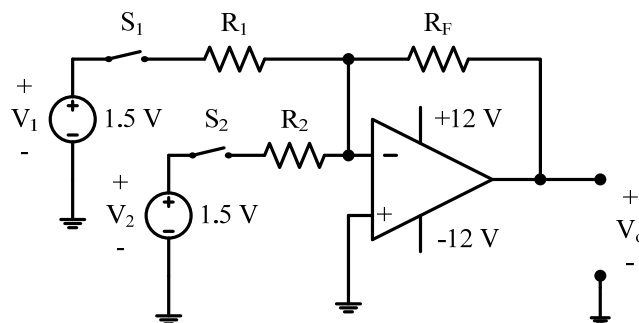

Figure 7: A summing amplifier circuit.
1. Connect the experimental circuit as shown in Figure 7, where $R_F = R_1 = R_2 = 10$ k Ω , and V_1 and V_2 are 1.5 V each.